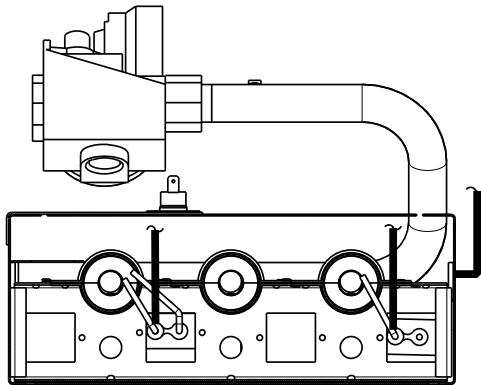

Fig. 13 – Single-Stage Igniter, Flame Sensor, Orifice/Main Burner Relationship
14. Remove the propane gas orifices from the manifold using a 9/16 in. wrench and install the correct natural gas orifices in the manifold (See Table 4 to select correct orifice size based on rated input. See Fig. 13 and Fig. 16 for orifice installation).
21. Verify igniter, flame sensor, orifice/main burner relationship prior to completing conversion. (See Fig. 13.) Partially slide burner rack assembly into unit.